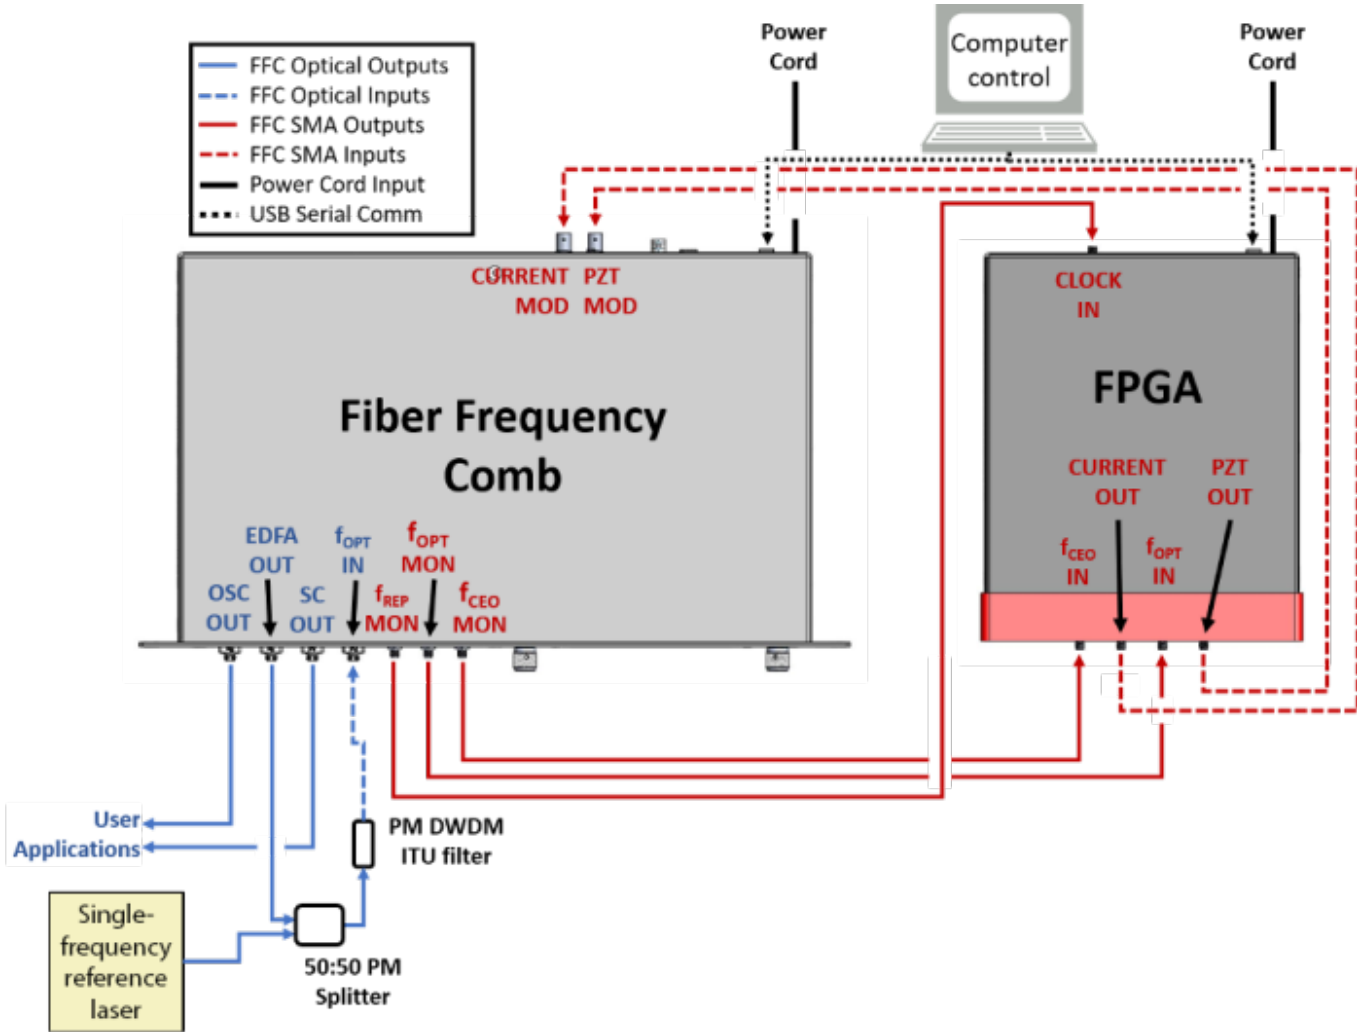

Fig. 2: FFC-100 electrical and optical connection diagram (Click for larger image)
2. Ensure all cables and fibers are connected according to the connection diagram figure 2.²⁾